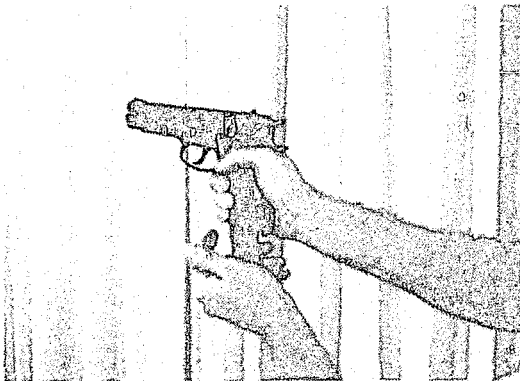

Figure 7-26
2. Clearing the Auto-Pistol (See Figures 7-26 through 7-29)